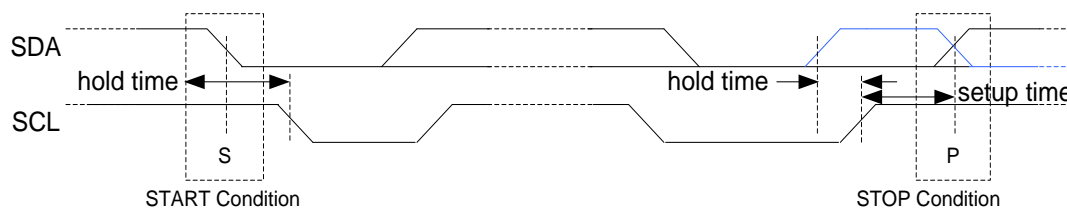

Figure 9. START and STOP (or repeated START, blue line) condition
An idle I²C bus state occurs when both SCL and SDA are not being driven by any master and are therefore in a logic HI state due to the pull up resistors. Every transaction begins with a START (S) signal and ends with a STOP (P) signal. A START condition is defined by a high to low transition on the SDA while SCL is high. A STOP condition is defined by a low to high transition on the SDA while SCL is high. START and STOP conditions are always generated by the master. This slave module also supports repeated START (Sr) condition which is same as START condition instead of STOP condition (the blue-color line shows repeated START in Figure 9).